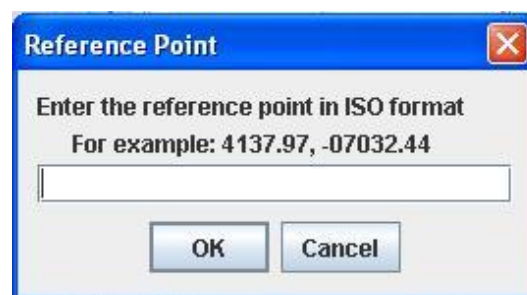

Figure 6-8. Reference Point Dialog.
3. Enter a name for the map (e.g. new-york-harbor-NY) and select 'OK'. This will result in two further dialogs (similar to that shown in Figure 6-8) requesting the lower-left and upper-right map coordinates respectively.
2. Enter a name for the map (e.g. new-york-harbor-NY) and select 'OK'. This will result in two further dialogs (similar to that shown in Figure 6-8) requesting the lower-left and upper-right map coordinates respectively.
It is sometimes useful to add visible reference points to the currently displayed map. This can be achieved by selecting Maps/Draw Reference Point, from the Glmpc Terminal's menu bar. The resulting dialog (shown in Figure 6-8) appears, requesting the user to enter the reference point latitude and longitude, in the ISO format $\pm DDMM.MMM$, $\pm DDDMM.MMM$.